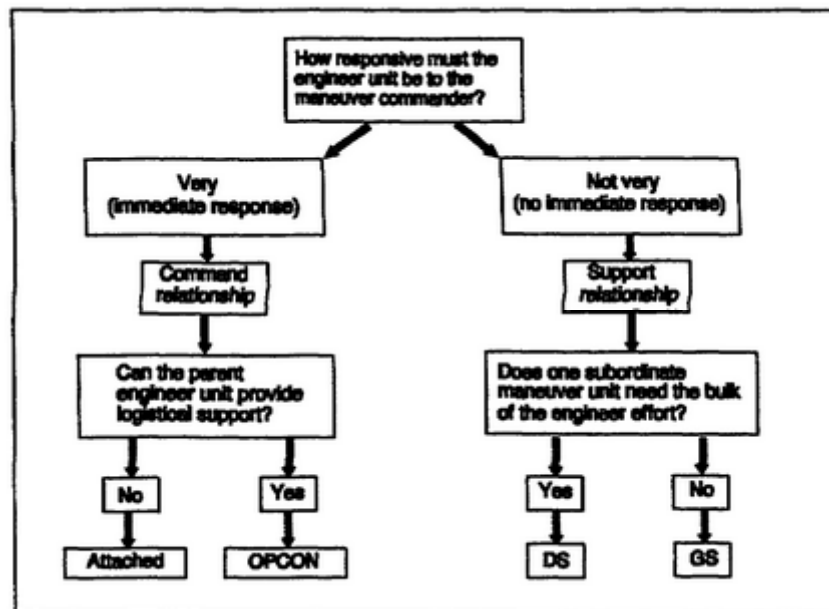

Figure 2-5. Command and support relationships.
- a. Figure 2-5 outlines the decision-making process for determining a command or a support relationship. It delineates relationships based on the necessary response time to the receiving maneuver element. Command, administrative, and logistical responsibilities remain with the parent engineer unit in a support relationship. The engineer unit commander organizes the unit and suballocates tasks to effective support the maneuver commander's intent. Table 2-1 shows who is responsible for C², task organization and assignment, and logistical support. It also shows who reorganizes engineers as infantry, when necessary.
NOTE: Figure 2-5 and Table 2-1 are quick reference charts that were designed for use during this correspondence course, and they can be used as guides during the task-organization process. They are NOT a substitute for the planning process during the employment of engineers.